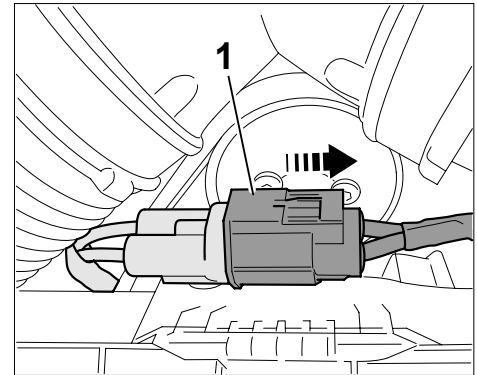

Figure 1
- 2 Disconnect electric plug connection (⇒ *Figure 1 -item 1-*) for the fan blower (⇒ *Figure 1 -arrow-*) to prevent the blower from coming on during control unit programming. Operation of the fan and the resulting increased current draw can cause a voltage drop, which can cause control unit programming to be aborted.